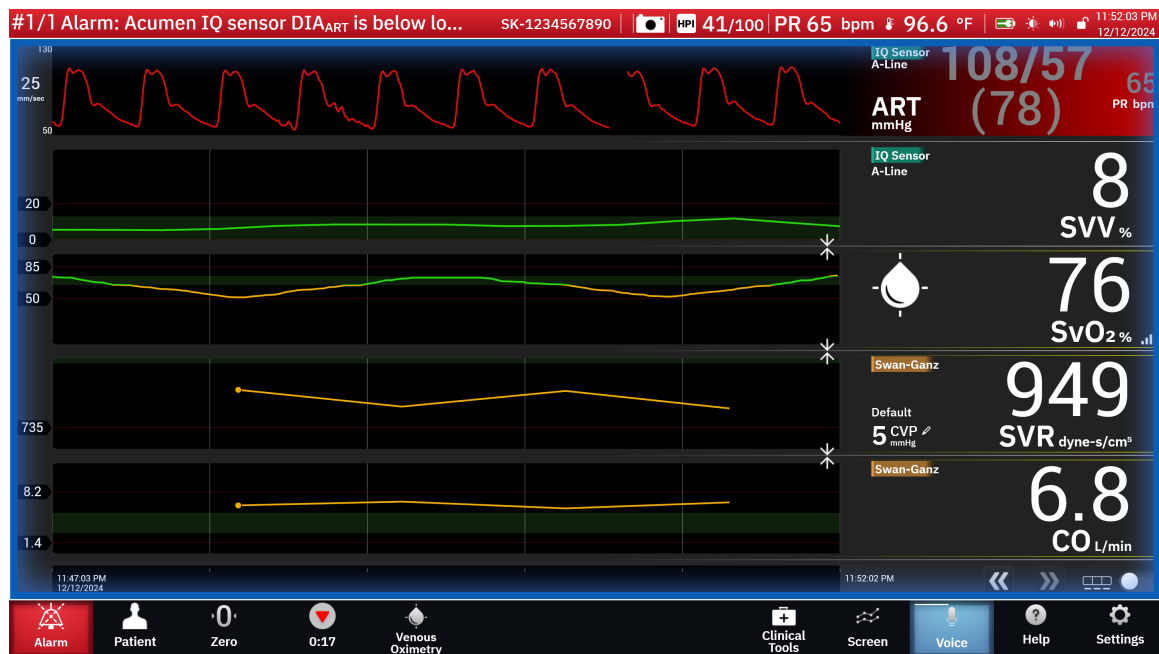

Figure 4-11: Voice listening state (English only)
- 3. Use the wake gesture by raising your hand to the level of the camera and create an open palm facing the monitor. The monitor enters into an awake state indicated by a blue border around the screen and a blue **Gesture** icon on the navigation bar. This functionality is similar to the voice awake state. See Figure 4-11 on page 105 for an image of how the blue border will appear in the awake state.